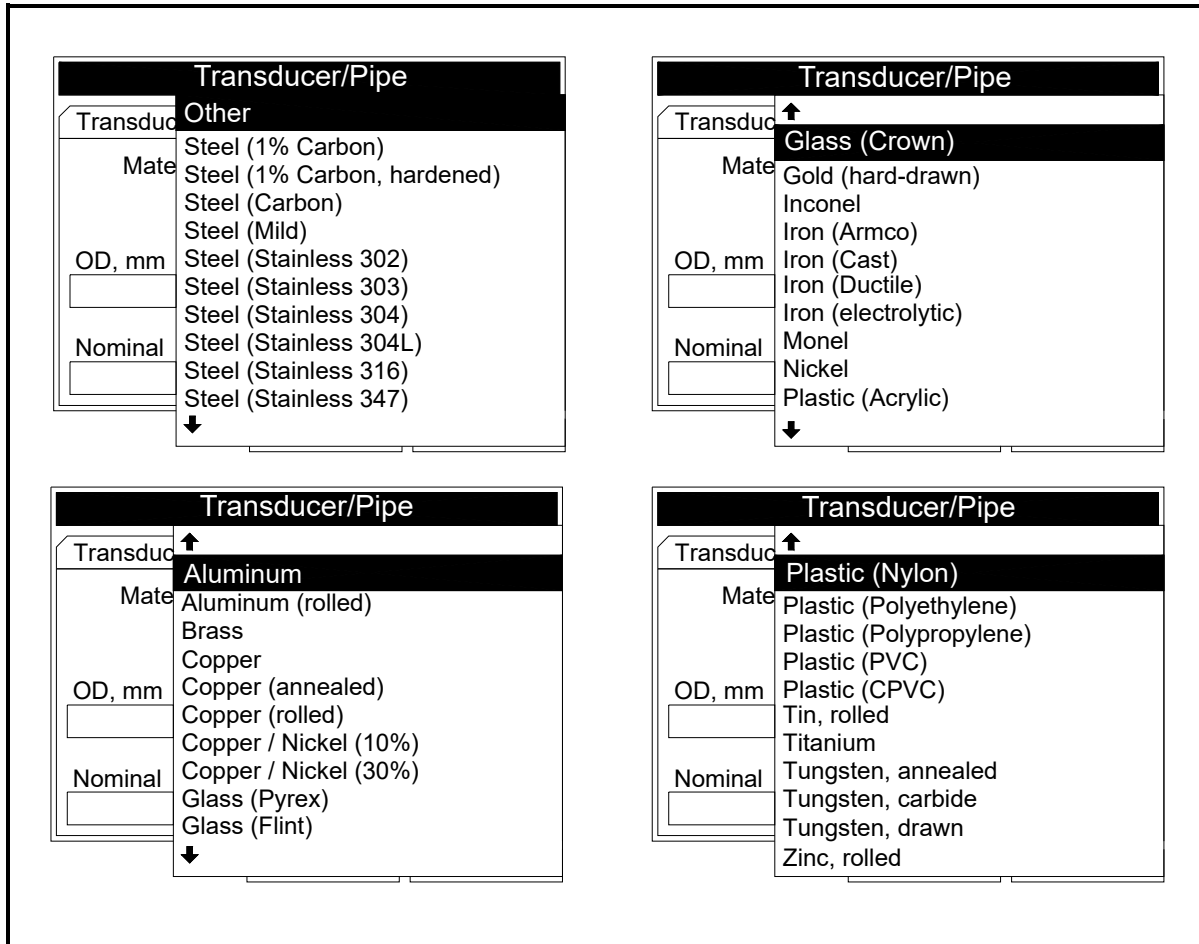

Figure 10: Pipe Material Options
- b. A drop-down list of materials opens as shown in Figure 10 below. Press the [▼] or [▲] keys to scroll to the appropriate material, or scroll to "Other" for a material not on the list. Press the [▶] key to scroll down by a page, or the [◀] key to scroll up by a page.